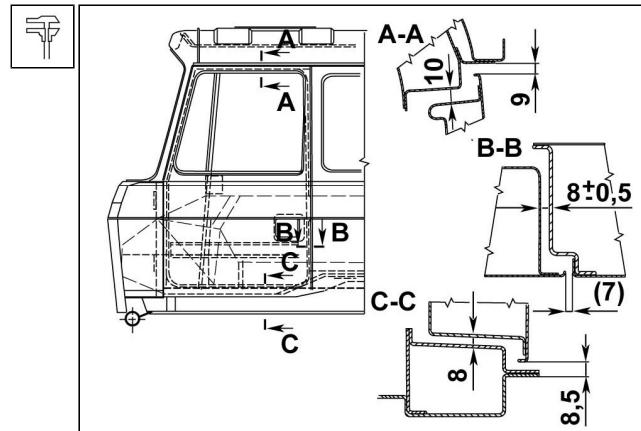

Fig. 13.49 Specified circumferential door clearances
3. Adjust the specified circumferential clearances (See Fig. 13.49).